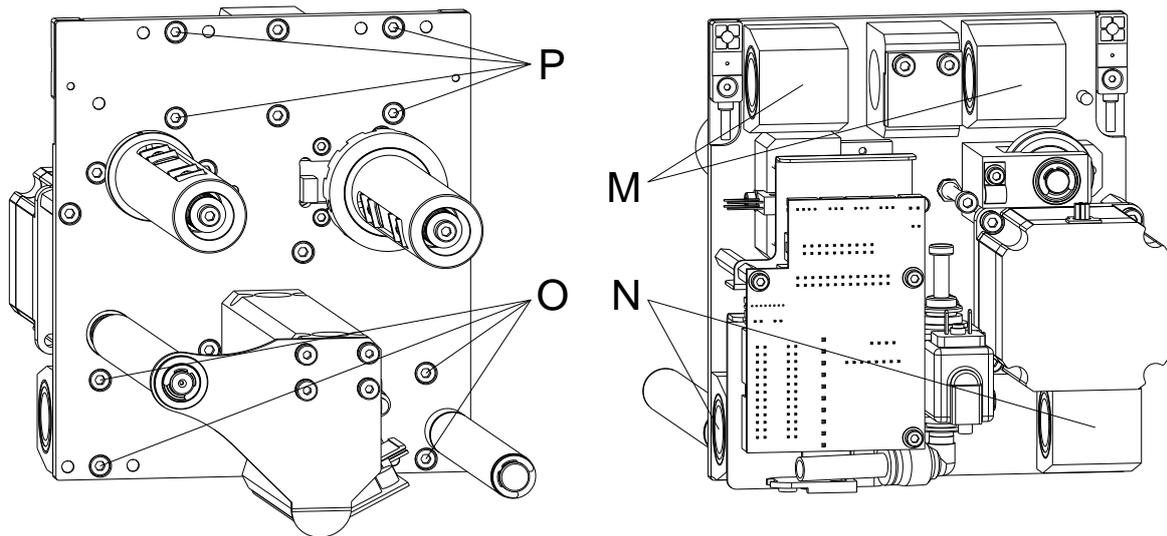

Figure 38
5. Unscrew the two screws (C, Figure 38).
6. Unscrew the screw (H, Figure 38).
7. Hold the print carriage (K, Figure 38) and pull the top guiding shaft (A, Figure 38) with the flange (B, Figure 38) from the hole in the side panel (G, Figure 38) and remove them. Remove the slider (L, Figure 38) for the zero control while this procedure.
8. Unscrew the screws (P, Figure 38).
9. Pull the linear bearing (M, Figure 38) from the fixing pins and remove it.
1. Insert a new linear bearing (M, Figure 38) on the fixing pins.
2. Tighten the screws (P, Figure 38).
3. Guide the top guiding shaft (A, Figure 38) with the flange (B, Figure 38) through the holes in the side panel (G, Figure 38). Place the slider (L, Figure 38) for the zero control and push it through the linear guiding (M, Figure 38) of print carriage. Hold the print carriage (K, Figure 38) while this procedure.
4. Tighten the screws (H, Figure 38).
5. Tighten the two screws (C, Figure 38).